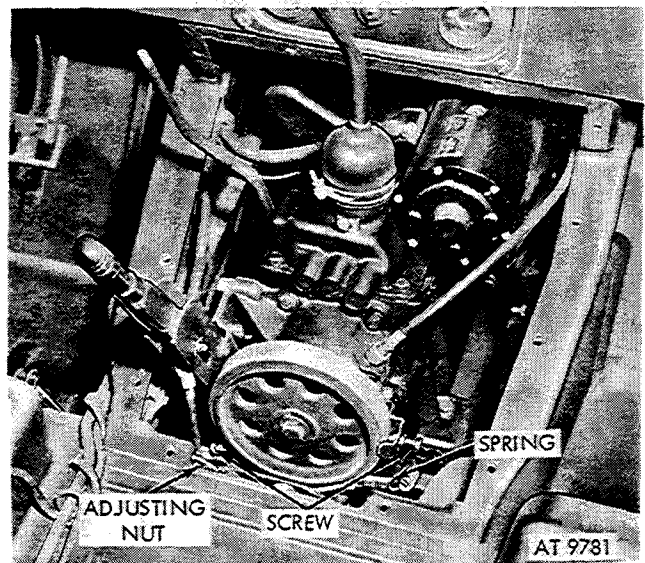

Figure 2-358. Parking brake adjustment.
b. Move parking brake lever forward to fully released position (fig. 2-358).
c. Loosen jam nuts on band-alining screws and adjusting nut alternately, using feeler gage until a clearance of 0.010 inch is obtained between brake lining and drum. Tighten jam nut (fig. 2-358). Place vehicle on incline and test parking brake. Install cover plate.
(1) Park the vehicle on an incline, preferably a 40 percent slope (with highway load).
(2) Turn adjusting knob on top of lever counterclockwise to remove adjustment.
(3) Put handle in vertical engaged position and turn adjusting knob clockwise as tight as possible with one hand.
(4) Release handle to horizontal position and turn adjusting knob two full turns clockwise.
(4) Remove band-adjusting nut (fig. 2-358).